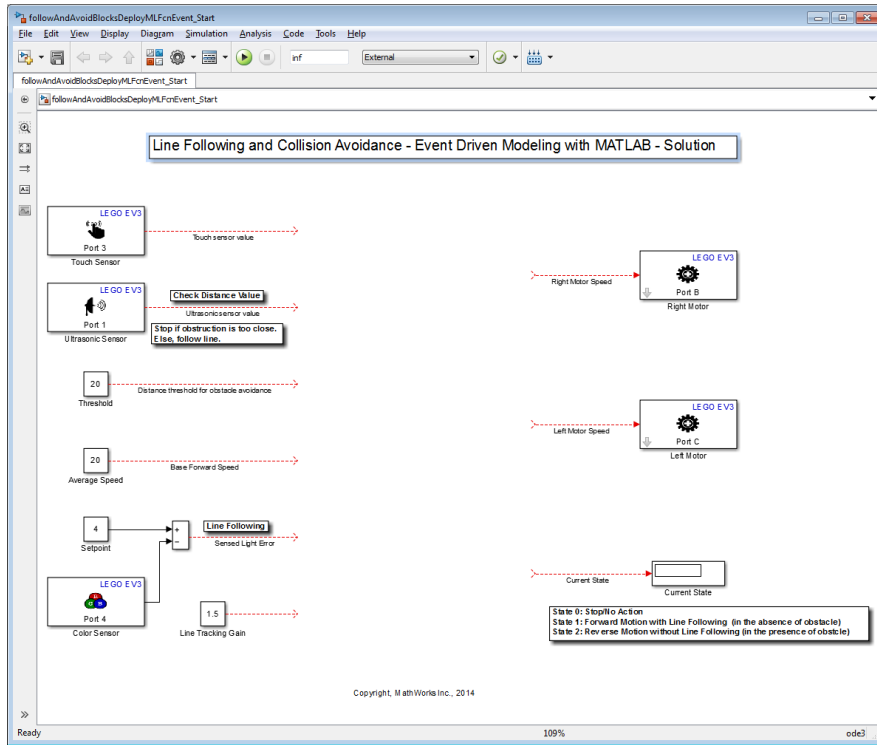

Figure 28 Using MATLAB code in Simulink model
6. After saving the model and making appropriate connections, the final model should look like the one in Figure 28.